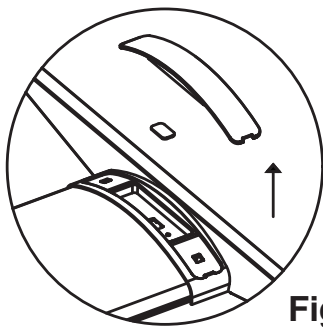

Fig. 2
2. Install the two (2) end plates to each end of the existing luminaire by placing them between the fixture and T-grid. Secure them with four (4) self-tapping screws. (See **Fig. 2, Fig. 2A**)
2. Install the two (2) end plates to each end of the existing luminaire by placing them between the fixture and T-grid. Secure them with four (4) self-tapping screws. (See Fig. 2, Fig. 2A)
1. Remove the sensor cover, silicone plugs from the USB-C receptacle and the screw hole (see Fig. 2).